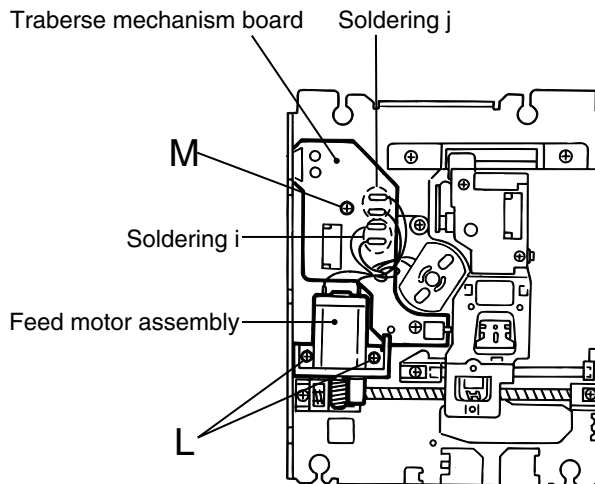

Fig.19-1
(See Fig.19-1, 19-2)**
**■Removing the traverse mechanism board (See Fig.19-1)**